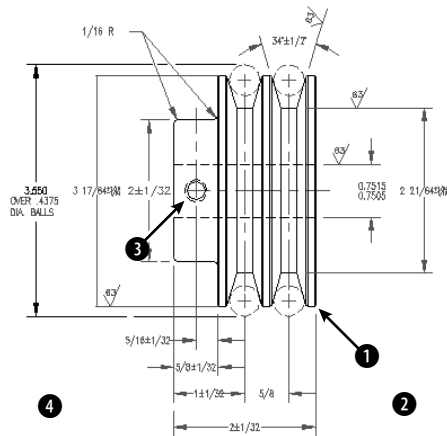

Figure 14-27: A set of pulleys.
2. Save the file as ab14-06.dwg in your AutoCAD Bible folder. This is a drawing of a set of pulleys, as shown in Figure 14-27. If the Dimension toolbar isn't visible, right-click any toolbar and check Dimension. OSNAP should be turned off.
Specify first leader point, or [Settings]<Settings>: Pick **1** in Figure 14-27 (near but not on the drawing object).
5. Repeat the QLEADER command. Pick points **3** and then **4** in Figure 14-27. Right-click or press Enter. At the Specify text width <2>: prompt, press Enter to use the same width as previously. At the Enter first line of annotation text <Mtext>: prompt, type DRILL 'F' HOLE. Press Enter twice to end the command and place the leader.